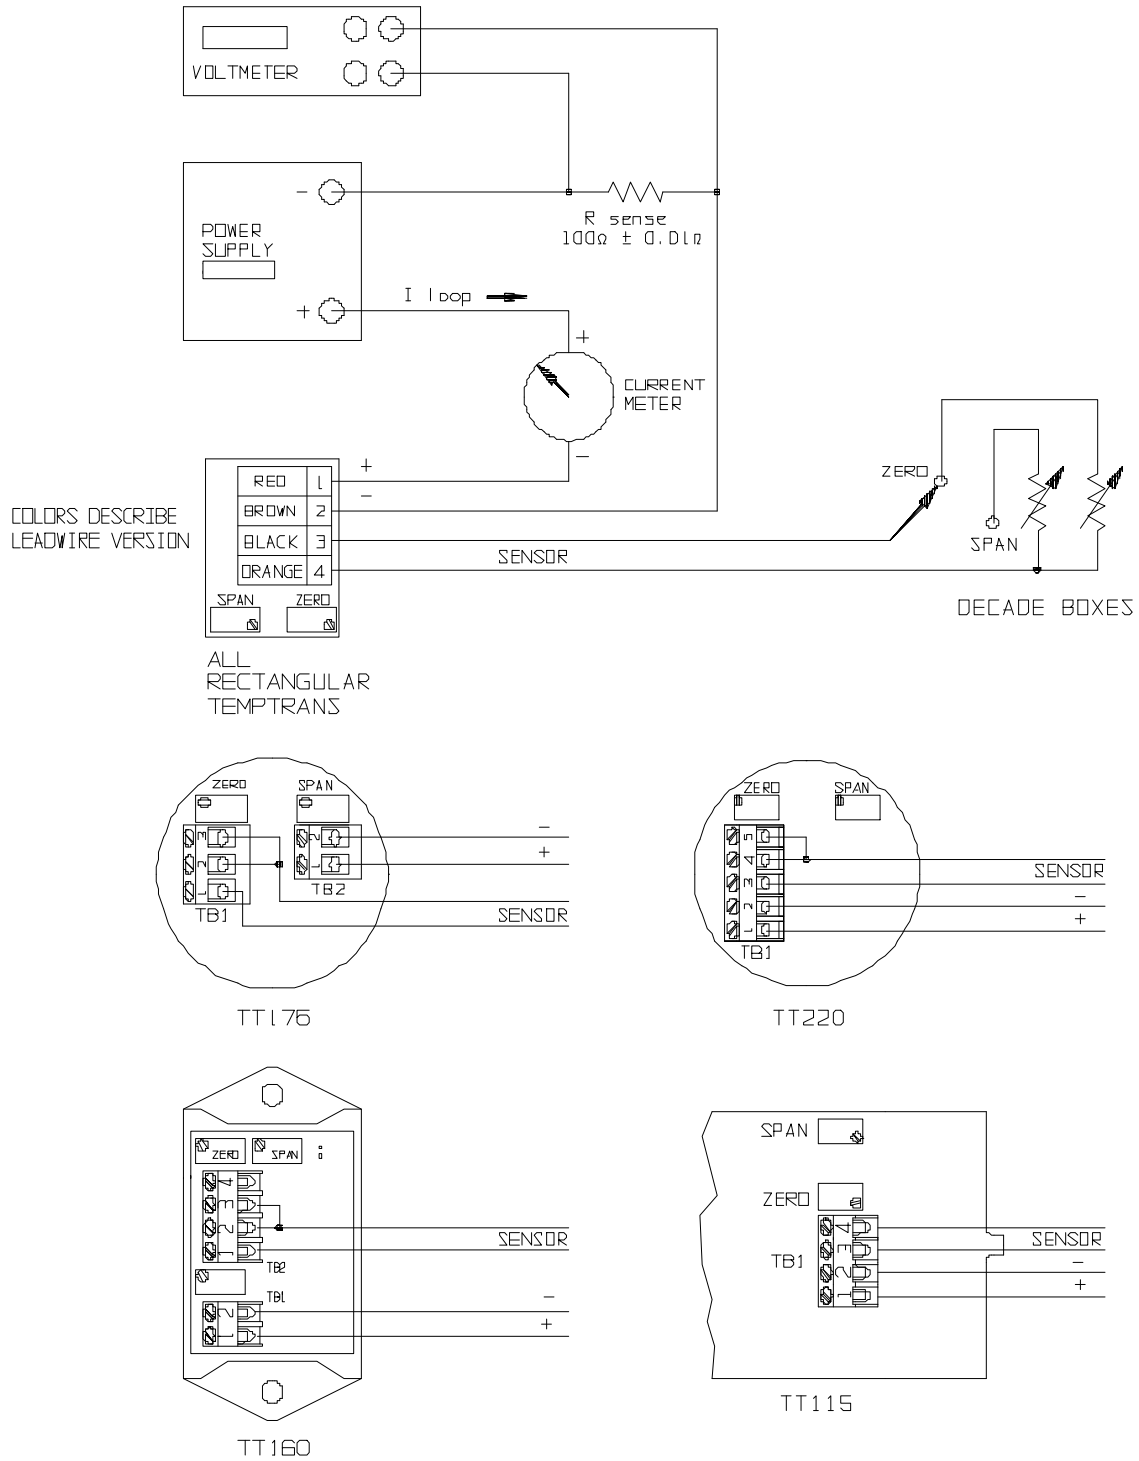

Figure 1 Wiring Diagram
1. Connect a current meter in series with the 4-20 mA loop. See Figure 1.
Turn the Zero pot of the Temptran (it is marked on the label, or see Figure 1) until the transmitter's current reading matches what you calculated.
2. Wire up the calibration setup as shown in Figure 1.